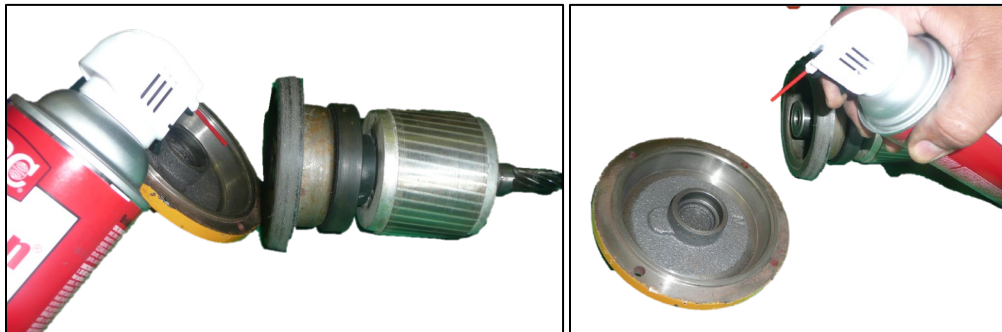

Figure 6.8.2
- Use brake cleaner to remove any lining dust that has accumulated on brake parts (see Figure 6.8.2).